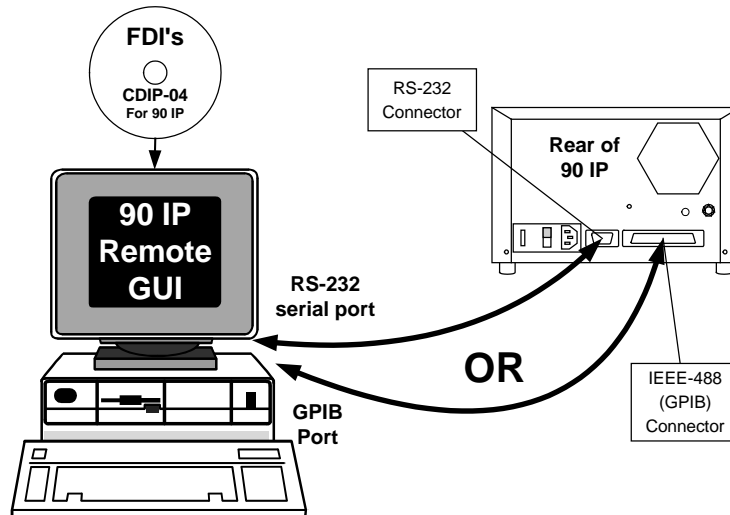
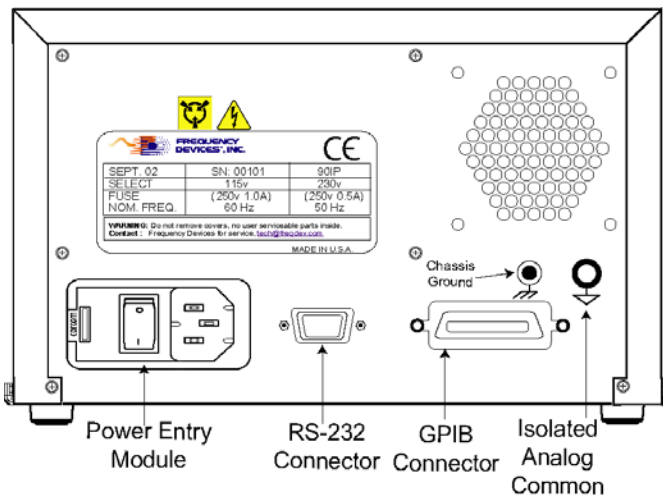

Figure 1.3 - GPIB & RS-232 Interconnection
Figure 2.1b – 90IP Rear Panel
Each Model 90IP controller contains a hard front panel that provides Function and Select capabilities, an Enter button, and a backlit Liquid Crystal Display (LCD). Upon selection of each slot card (1 thru 4), smartSLOT Technology automatically configures each cards control functions. Soft front panel operation is available via the GPIB or RS232 communication ports (Figure 1.3).
See Figure 1.3 for the typical GPIB & RS-232 setups,
The Model 90IP consists of a chassis, controller, and space for up to four smartSLOT, slot cards that interface directly with a remote control PC, fitted with RS232 or a GPIB or interface card. 90IP controller connectors are shown in **Figures 2.1b & 2.1c**. Standard GPIB or RS-232 cable connections are shown in **Figure 1.3**.
**3.4 – AC Line Voltage Selection (90IP) - See Figure 2.1B**